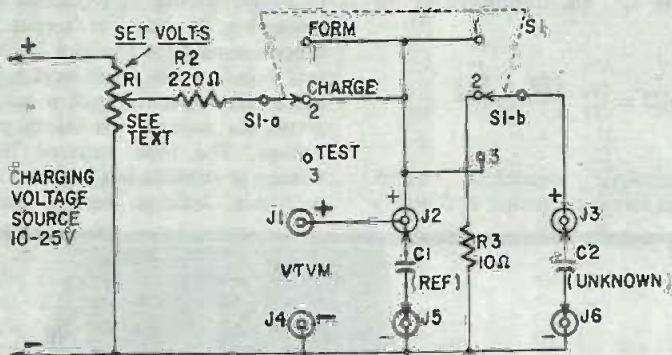

Fig. 1—Unknown electrolytic capacitors can be reformed, discharged and measured in a 1-2-3 procedure at the flip of S1. Voltage levels can be set by control R1.
Q11 (Fig. 1), Q9 (Fig. 2)—2N2369
A printed circuit was developed for Fig. 1, but it can also be built using breadboard material such as Vector board. All parts should be of good quality, but nothing is critical to the circuit except C3 and C6. Since they determine the pulse widths, they should be as close to the specified value as possible.
All you need is a vtvm (or other high-impedance voltmeter), a dc voltage source, one or more reference capacitors of known value and the simple circuit shown in Fig. 1.
1. Connect the charging-voltage source and the vtvm as shown in Fig. 1. Turn R1 (SET VOLTS) to reduce the meter reading to zero.
Fig. 1 shows the schematic of the generator. Fig. 2 is a simplified block diagram showing its essential features. The unit consists of four subunits. IC1 is connected as a variable-width pulse generator (Schmitt trigger). IC2 is a free-running multivibrator. Q1 and Q2 are the gate driver—amplifier and the gate, respectively. Q3 and Q4 form a compound emitter follower to provide a low-impedance output. A direct-coupled npn–pnp pair is used here so the output is at ground potential.
Sine waves introduced at input jack J1 (Figs. 1 and 2) are converted to fast-rise pulses at the input frequency by IC1. Pulse width is controlled by R3. Pulses, applied via C2–R5 to IC2, serve to lock in the square wave produced by free-running multivibrator IC2 (the gating waveform) with the incoming sine wave (the gated waveform). The tone burst will start at the point at which the sine wave crosses the zero axis. The input sine wave also is routed to gate Q2 by R9–R15, to be gated by the output of IC2.